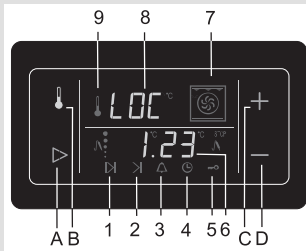

figure 3
For your safety, the oven door is automatically locked several minutes into the oven self-cleaning cycle. As long as the door is locked, LOC is indicated on the temperature display (8) (Figure 3).